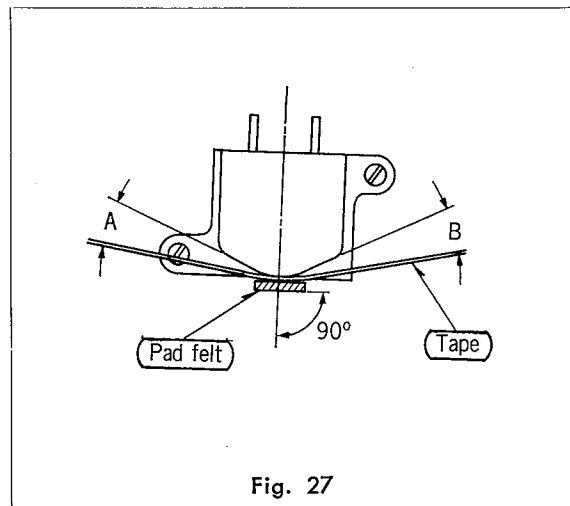

Fig. 27
- a) Adjust the position of the head (recrod head, playback head) until $\angle A$ and $\angle B$, shown in Fig. 27, and equal.